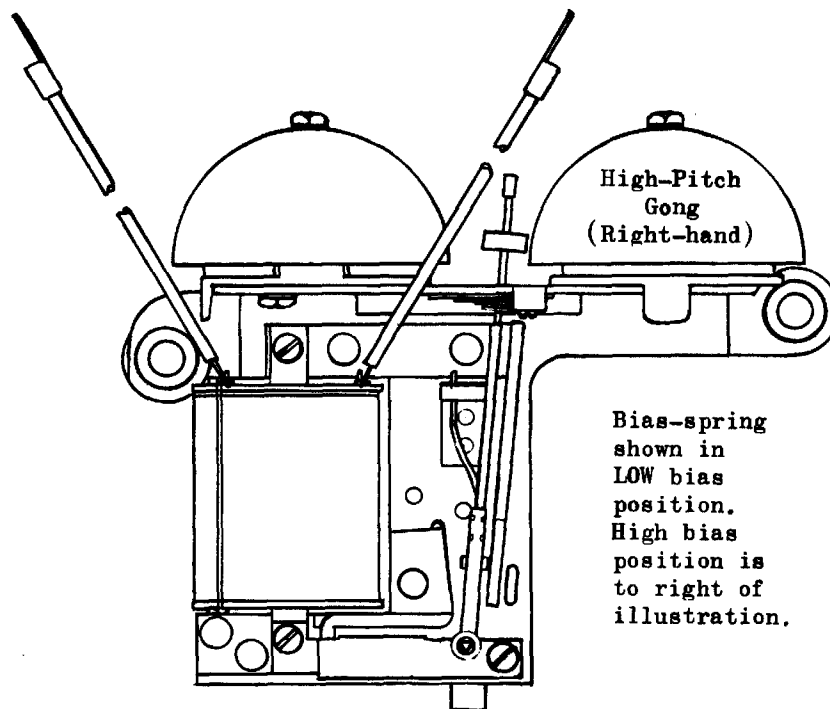

Fig. 10. Straight-Line Ringer
a. The gongs can usually be set by eye. Loosen the mounting screws and move both gongs "out". Have armature in the rest position. Move the right hand gong (indicated on fig. 10) "in"